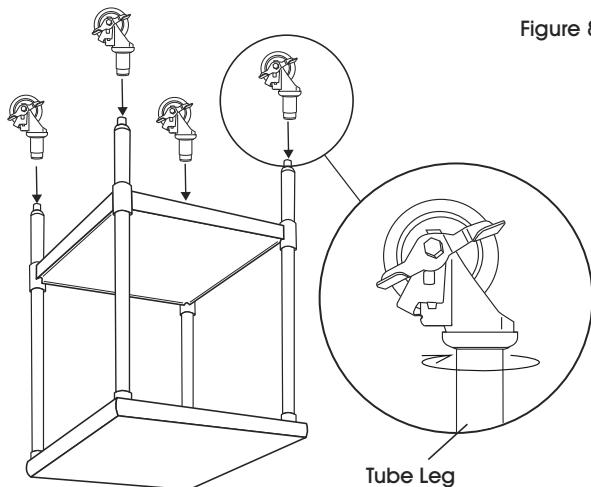

Figure 8
4. With caster fully inserted into the leg, turn clockwise until caster is secured to tube leg. (See Figure 8)